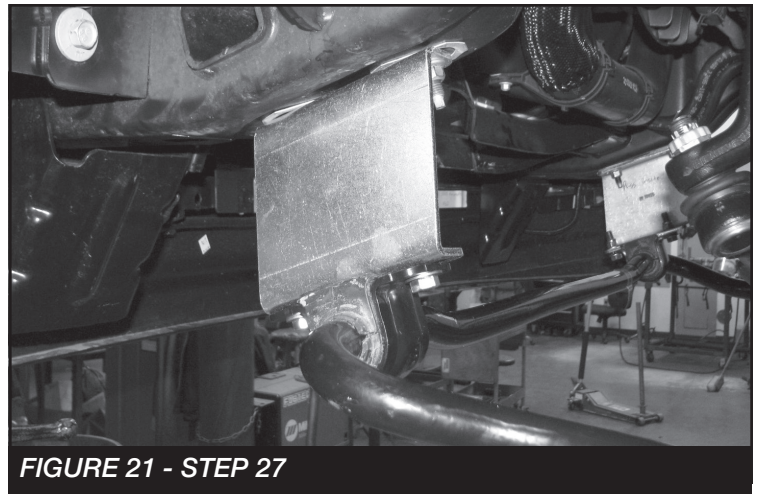

FIGURE 21 - STEP 27
27. Install FT30630 (Driver) & FT30629 (Passenger) Sway bar drop brackets using the factory hardware. Reinstall the front sway bar to the end links using the supplied 7/16" hardware torque all hardware to 83 ft-lbs. Reconnect the sway bar to the end links. Torque to 52 ft-lbs **SEE FIGURE 21**